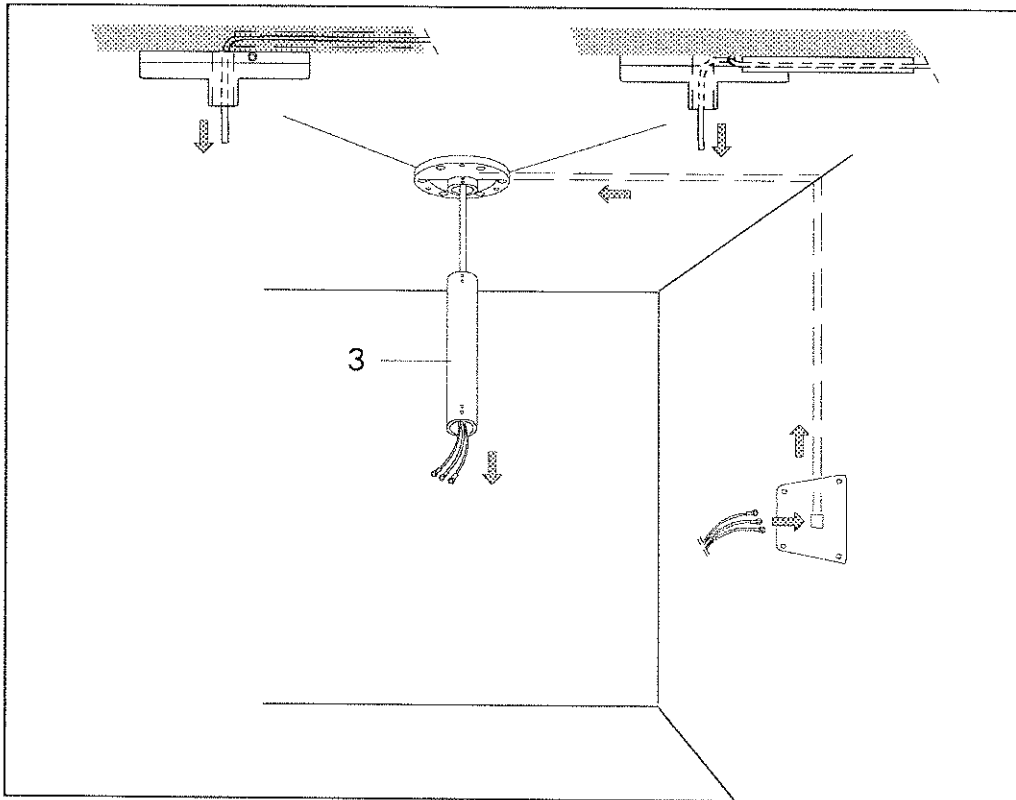

Figure 6-5
3. Screw ceiling suspension plate (1) to the ceiling by using the relevant screws (2).
4. Insert connection wires in the hole in the centre of the plate and drive them through the stand (3) (see Fig. 6-5 Page 30).